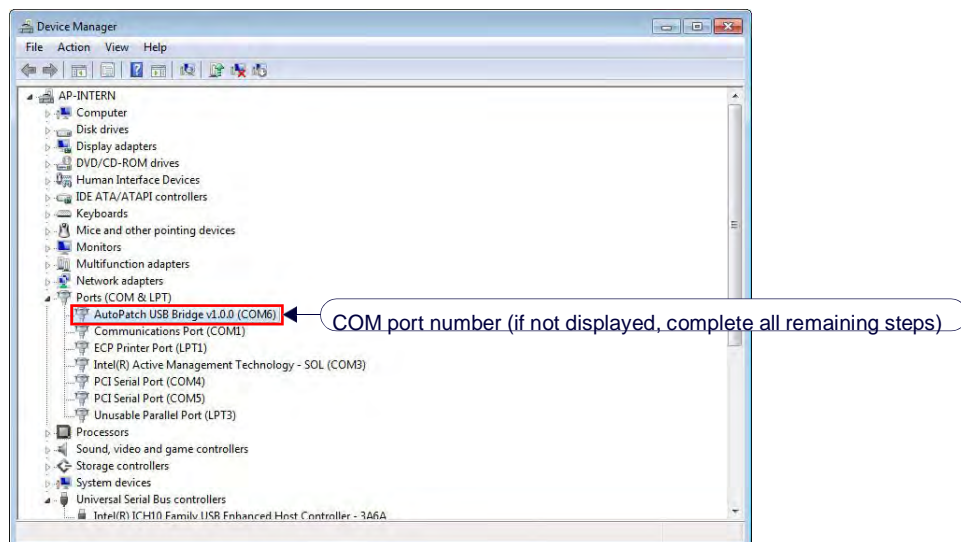

FIG. 190 Device Manager
8. If the AutoPatch USB Bridge port specifies the COM number, go to Step 11. If the port does not specify a COM number, right-click the **AutoPatch USB Bridge**, select **Properties**, and complete all remaining steps (FIG. 190):